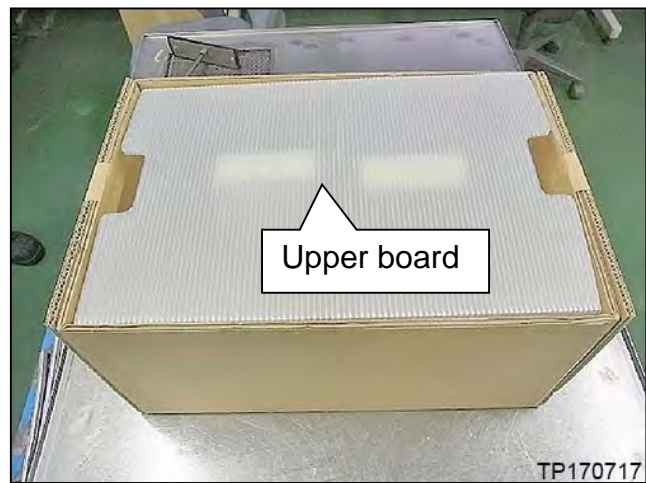

Figure 137
- The packing material may be different then what is shown in Figure 137.